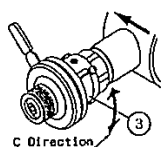
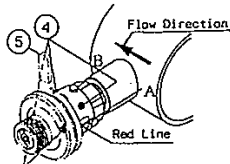

Fig.3-2
Fig.3-3
- (2) Turn part(3) by hand toward arrow mark C(Fig.3-2), and position red line of sticker toward upstream side.(Fig.3-3)
- (3) After confirming that red line is positioned toward upstream side, and screw 3 pcs of +screws(4) with +Driver.(Fig.3-3)